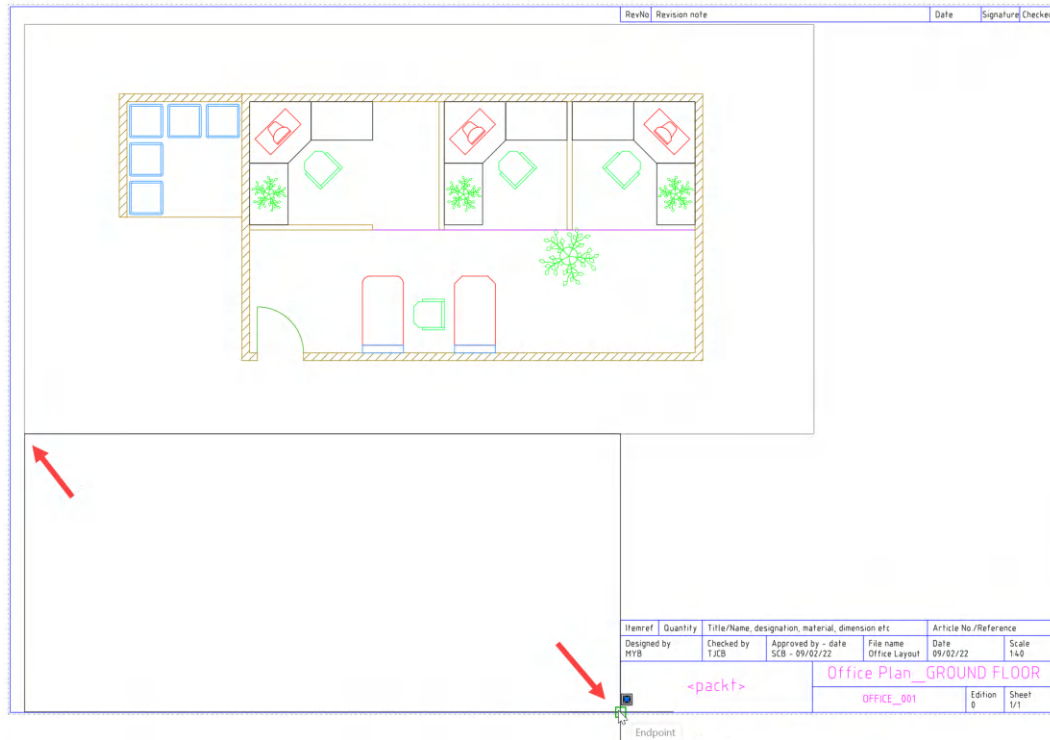

Figure 8.11: The new viewport with selected corners arrowed
10. You will now see the **Specify corner of viewport** prompt. Using object snaps, place a new viewport underneath the existing viewport. Use the bottom-left corner of the existing viewport (**Endpoint** snap) and the bottom-left corner of the title block description box (**Endpoint** snap), as shown in *Figure 8.11*. After clicking on the second point, the viewport will be placed automatically.